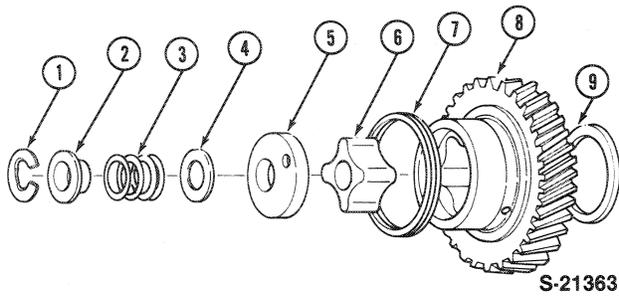

Figure 39
Reference — Figure 39
1. Remove the E-ring (1) and withdraw the collar (2), spring (3), shim (4) and cover (5), Figure 39.
2. Remove the gear (8) with rotor (6) as an assembly, Figure 39.
3. Remove the thrust washer (9), Figure 39.
The pump consists of the idler gear and vane assembly, inner rotor, port block and shaft assembly and cover, as shown, Figure 39.
3. Install the shim (4), spring (3), collar (2) and E-ring on the pump shaft, Figure 39.
Adjust the rotor clearance by selecting shims (4), Figure 39, of the proper thickness.